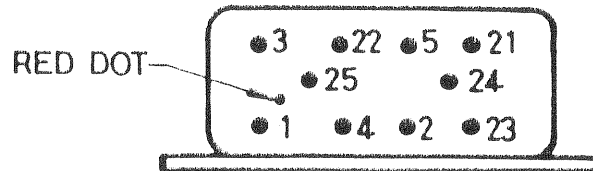

FIG 15 — RELAY TERMINAL NUMBERS
93. The four plug-in Transmit-Receive relays are mounted under the chassis. Each relay is secured by two small clamps which are held by two 6 BA 1/4 inch counter-sunk screws. Relay terminal numbers are as shown in Fig 15. Numbers appearing on the relay socket do not necessarily correspond to those in Fig 15 and are to be disregarded. Table 6 lists the wire colour coding. Removal and replacement involves raising the synthesizer assembly (paragraph 69); in some instances, it is necessary to remove the modules on the top of the chassis to gain access to the countersunk retaining screws. Loosen the nuts and clamps at the side of the relay and gently remove the relay from its socket. The four relays are identical in mechanical and electrical design and so interchange problems do not occur.